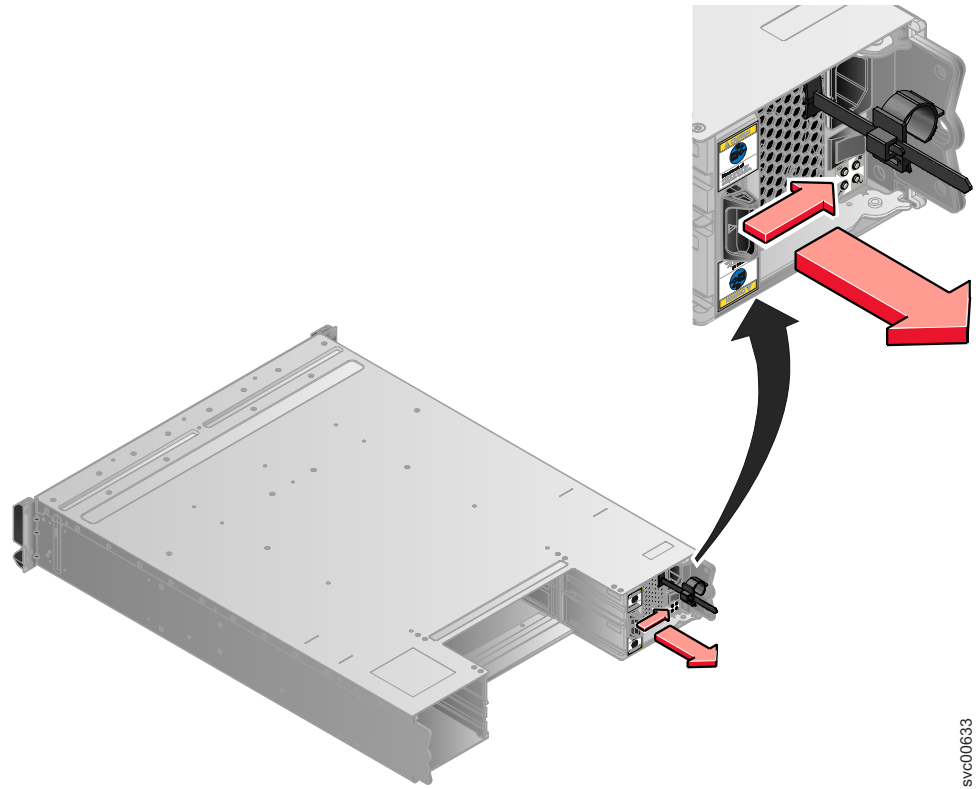

Figure 29. Directions for lifting the handle on the power supply unit
- a. Depress the black locking catch from the side with the colored sticker as shown in Figure 29 on page 87.